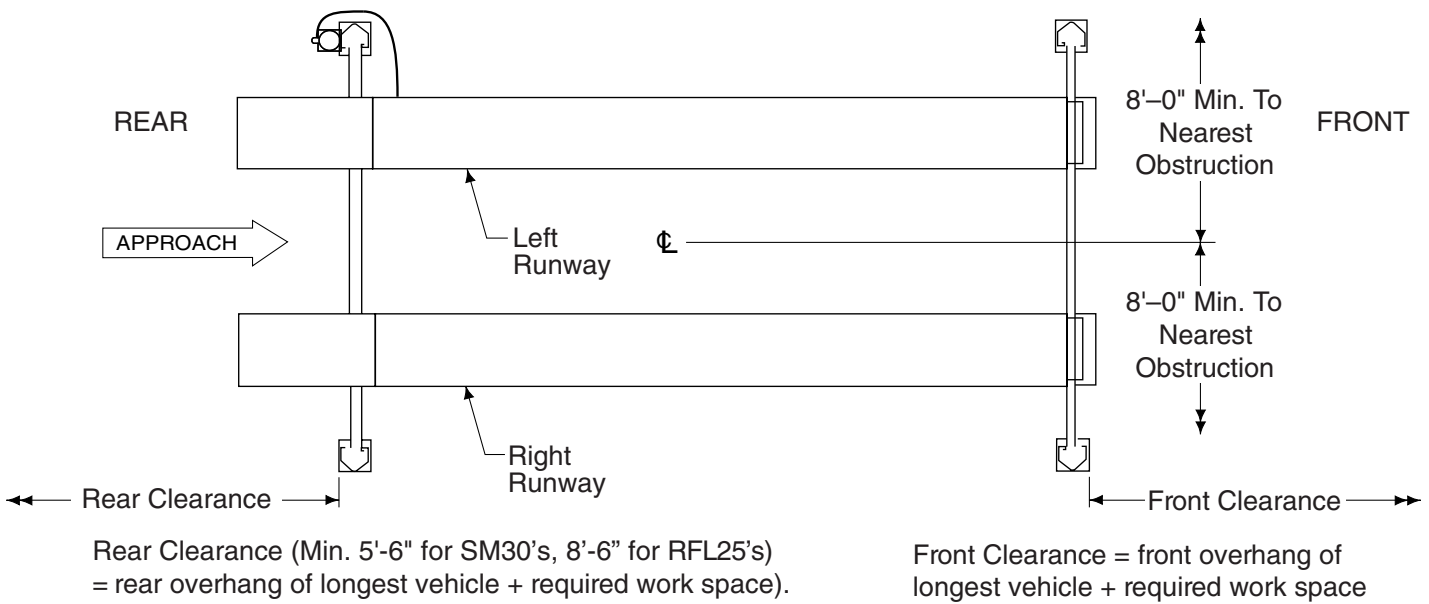
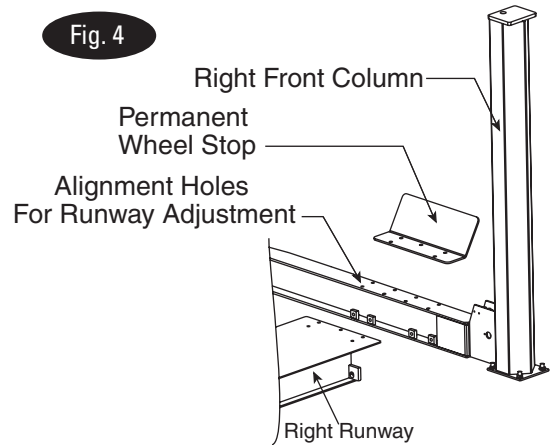
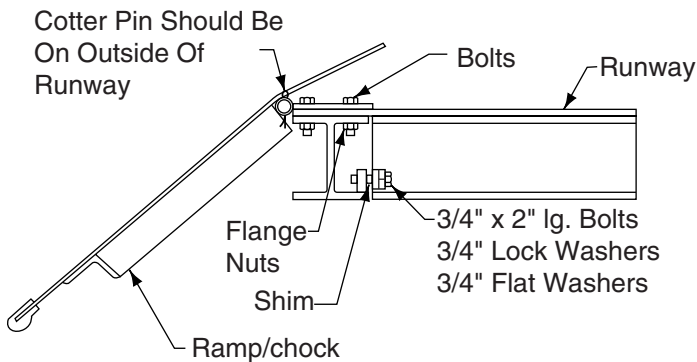

Fig. 1
Fig. 4
Fig. 5
1. Lift Location: Use architects plan when available to locate lift. Fig. 1 shows dimensions of a typical bay layout. For power unit at right front, rotate lift 180°, leaving ramp/chocks and wheel stops in original position. Lift floor area should be level.
- Position front and rear yokes at respective ends of runway, Fig. 1. Feed cable ends through yoke end, Fig. 4. Do not assemble sheaves in yoke ends at this time.
- Lay right runway in place on yoke. Slide right runway toward outside of lift until holes in yoke and runway line up, Fig. 4. Hold runway in place and bolt on ramp/chock and wheel stops to runway using ten  $\frac{5}{8}$ " x  $2\frac{1}{2}$ " bolts and flange nuts. Square up yokes with runways using four  $\frac{3}{4}$ "-10NC x 2" lg. bolts,  $\frac{3}{4}$ " flat washers,  $\frac{3}{4}$ " lock washers, and shims. Ramp/chocks go on rear, Fig. 5. and Fig. 6. Repeat for left runway.
- A. Keep columns square to center line of lift. Check lift location in the bay, Fig. 1. Check dimensions side-to-side, front-to-rear, and diagonally. Diagonals must be equal to within  $\frac{1}{4}$ " , Fig. 9. for each column.